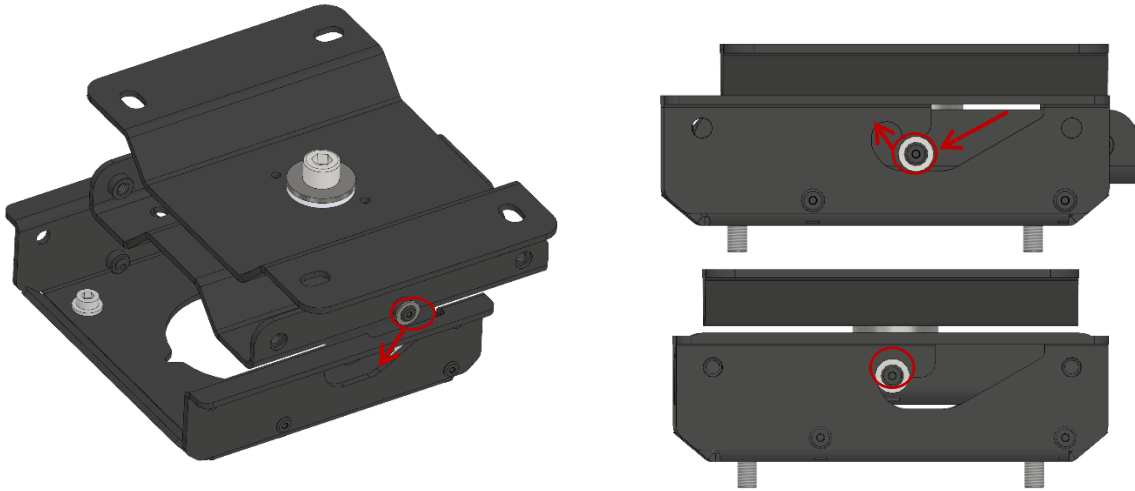

Figure 26 Mounting the ECO-QH-S with the ECO-CB
Step 3: Slide the ECO Quick Hang S from below into the ECO Ceiling Bracket, so that its two side pins slide into and lock within the two cutouts, as shown in the pictures combined in Figure 26 Mounting the ECO-QH-S with the ECO-CB.